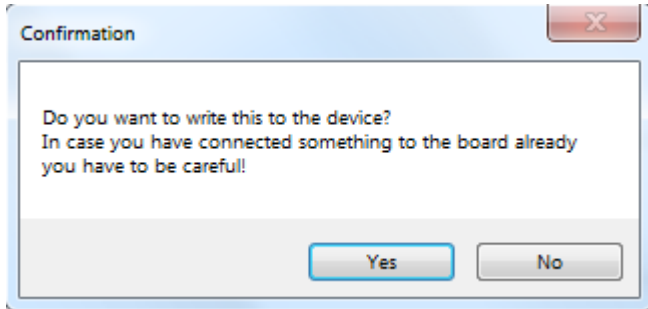

Figure 19. Confirmation window.
5. The Munich GUI now shows all pin descriptions in the GUI according to the register file. But the GUI does not immediately write it to the device, allowing the user opportunity to double-check. This step is only important if something is already connected to the MAX11311 ports as a DAC can provide up to $\pm 10V$ and potentially destroy the external circuitry. Also, do not connect 2-DAC ports together (shorted) and set to different voltage levels. In addition, GPI ports can only support levels between 0V and 5V. Therefore, do not connect a DAC to a GPI with a voltage outside of the allowed range. A Confirmation window appears as depicted in **Figure 19**.